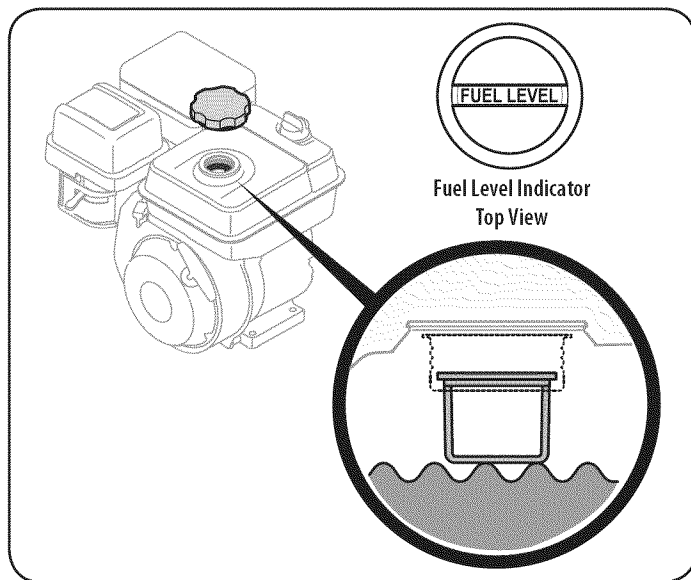

Figure 11
5. Fill the tank until the fuel reaches the "fuel full" indicator mark. See Figure 11.